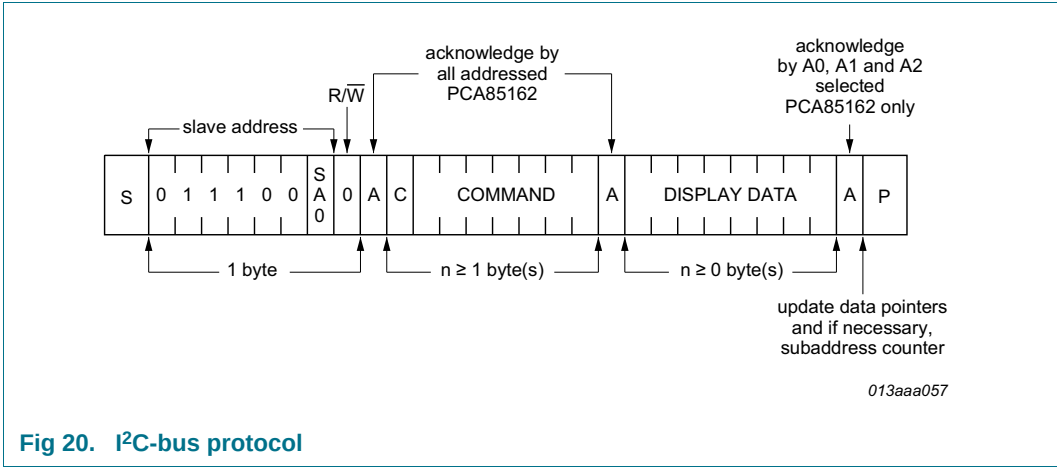

Fig 20. I2C-bus protocol
The I²C-bus protocol is shown in Figure 20. The sequence is initiated with a START condition (S) from the I²C-bus master which is followed by one of the two possible PCA85162 slave addresses available. All PCA85162 whose SA0 inputs correspond to bit 0 of the slave address respond by asserting an acknowledge in parallel. This I²C-bus transfer is ignored by all PCA85162 whose SA0 inputs are set to the alternative level.